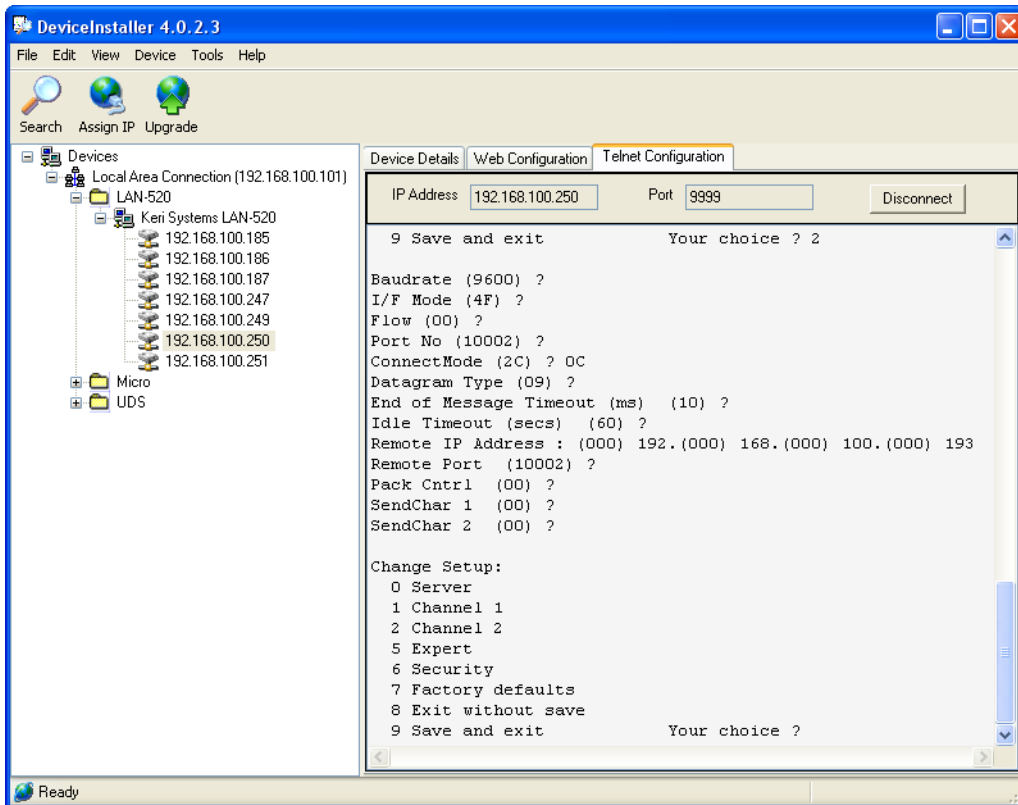

Figure 6: Correct Channel 2 Configuration Parameters - Slave Unit
- Press <Enter> until the Change Setup menu appears (see Figure 6).